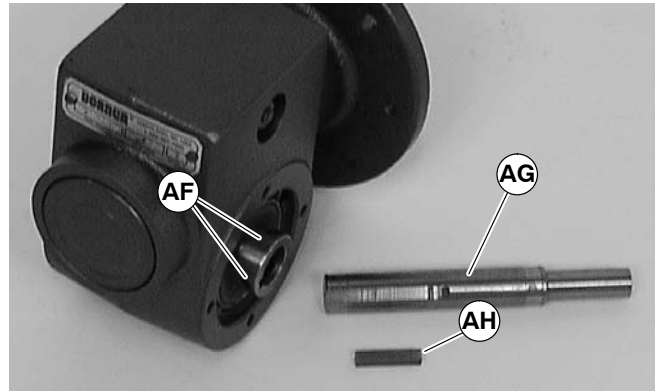

Figure 18
9. Insert the new shaft with adhesive (AG of Figure 18) and key (AH) into new gear reducer. Tighten set screws (AF) to 35 in-lb (4 Nm).